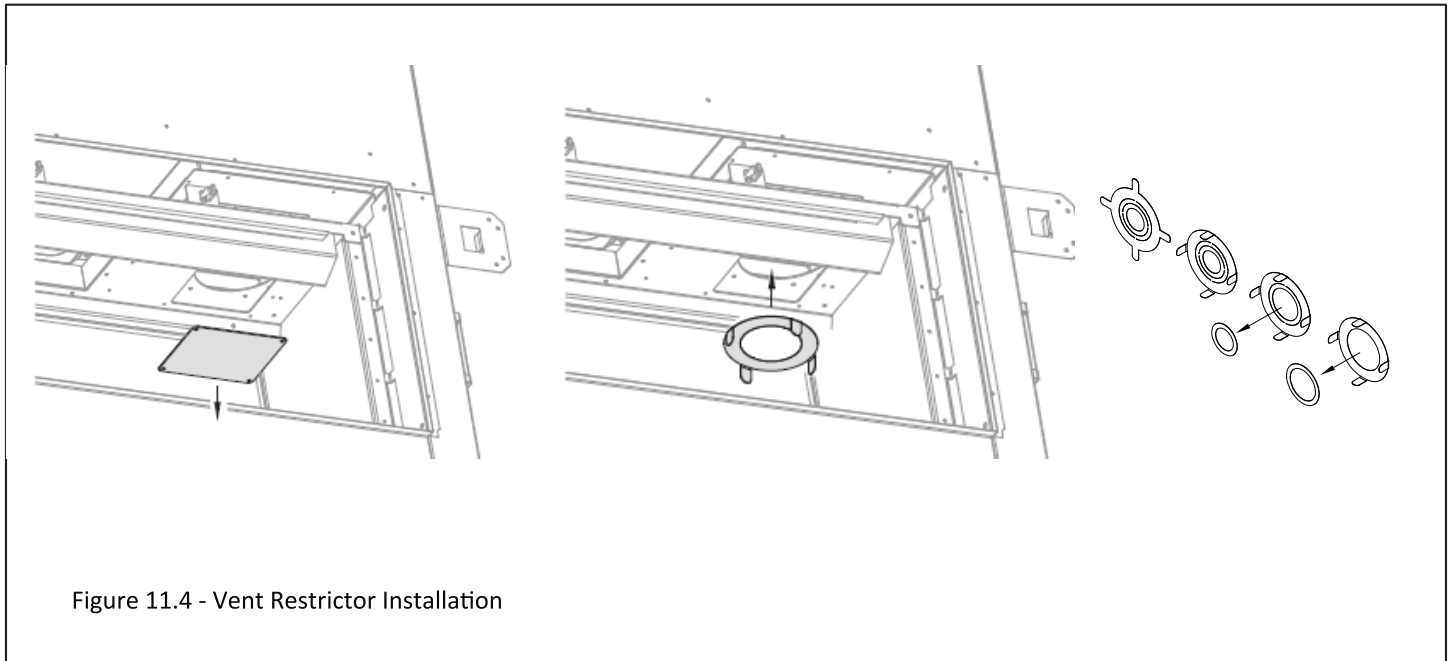

Figure 11.4 - Vent Restrictor Installation
Vertical terminations may display an active, compact flame. If this appearance is not desirable, a restrictor plate may need to be installed or modified after vent termination installation. Access to the vent exit for restriction can be reached through the fireplace baffle (remove and reinstall cover plate). See Figure 11.4
2. Locate the baffle cover plate (left side of Figure 11.4). Remove the baffle cover plate via (4) screws. Save screws.
5. Reinstall the baffle cover plate with (4) screws previously removed.
6. Reinstall the baffle cover plate with (4) screws previously removed.